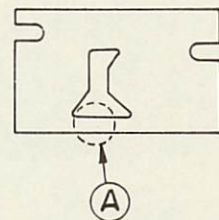

Fig.19
- \* If (A) part of the shuttle race spring is bruised, it will invite bobbin thread breakage. Polish it with some abrasives. (Fig.19)